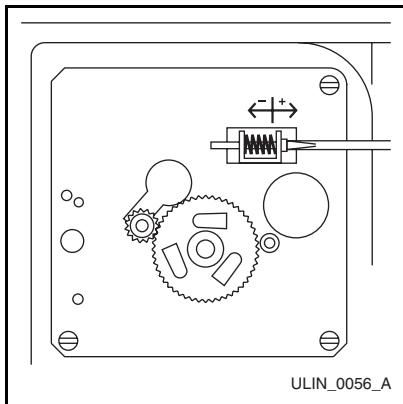

Figure 12
2. Locate the adjusting screw on the ice maker assembly control box. The adjusting screw is just below the minus (-) and plus (+) signs on the control box (Figure 12).